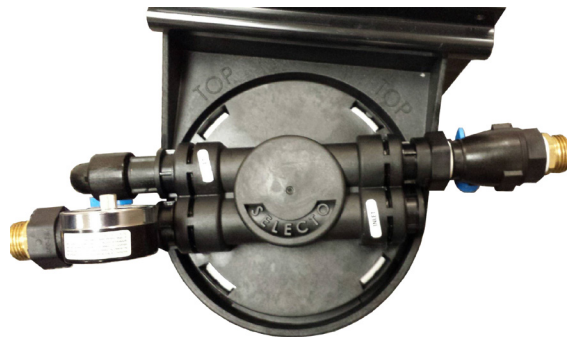

Fig. 3
3. The photo in Figure 3 shows the filter with the inlet and outlet components reversed. Due to interference the pressure relief valve will need to be reinstalled first.